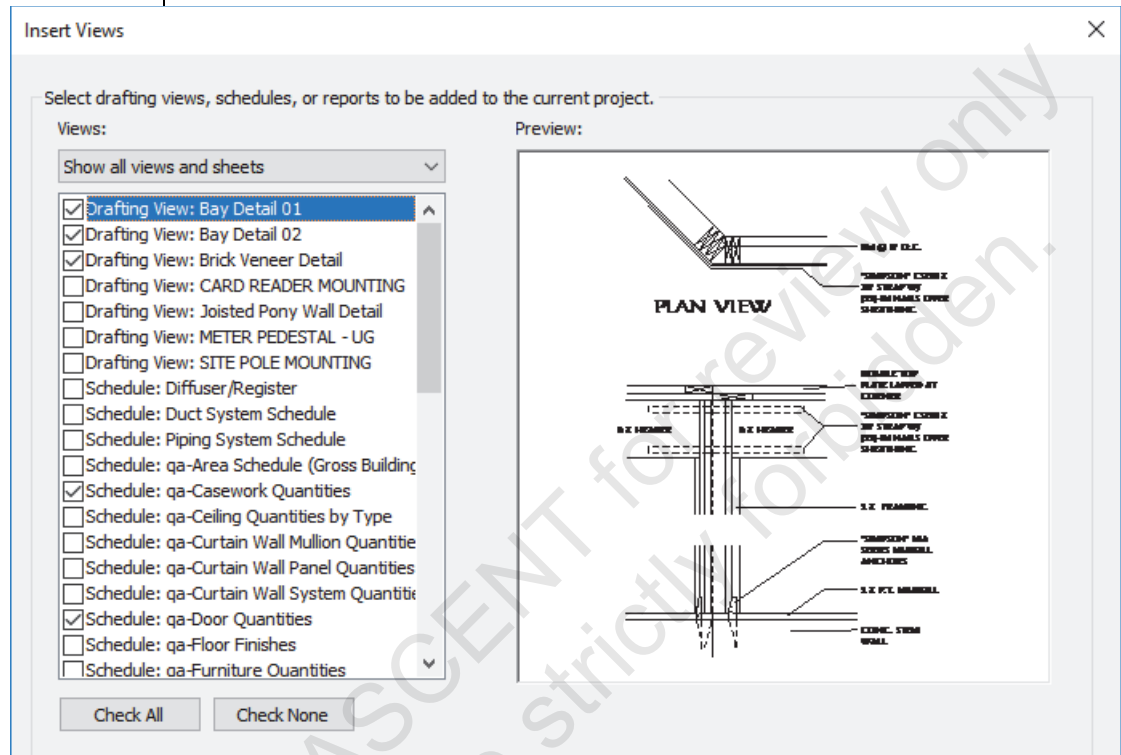

Figure 1–27
5. Select one or two drafting views and one or two schedules from the list, as shown in Figure 1–27.